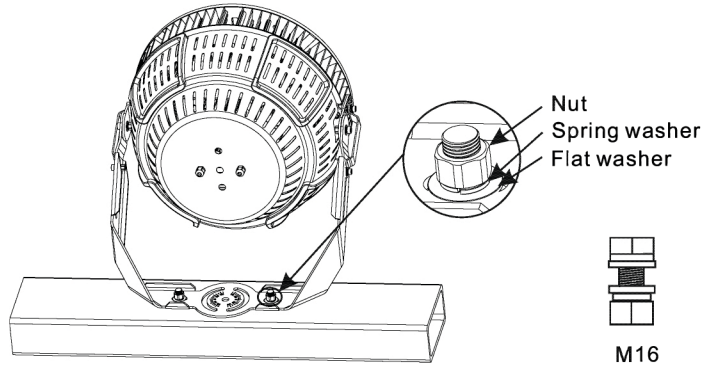

Figure 3
3. Install the luminaire on the crossbar and secure it with nuts, spring washers and flat washers (Figure 3).